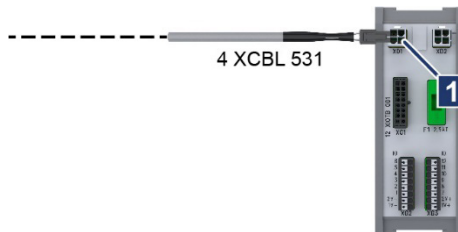

Fig. 6-4: Power supply connected to XIOTB
3. Plug the power supply cable 4 XCBL 531 into terminal XD1 on the terminal block XIOTB (→ Fig. 6-4/1).